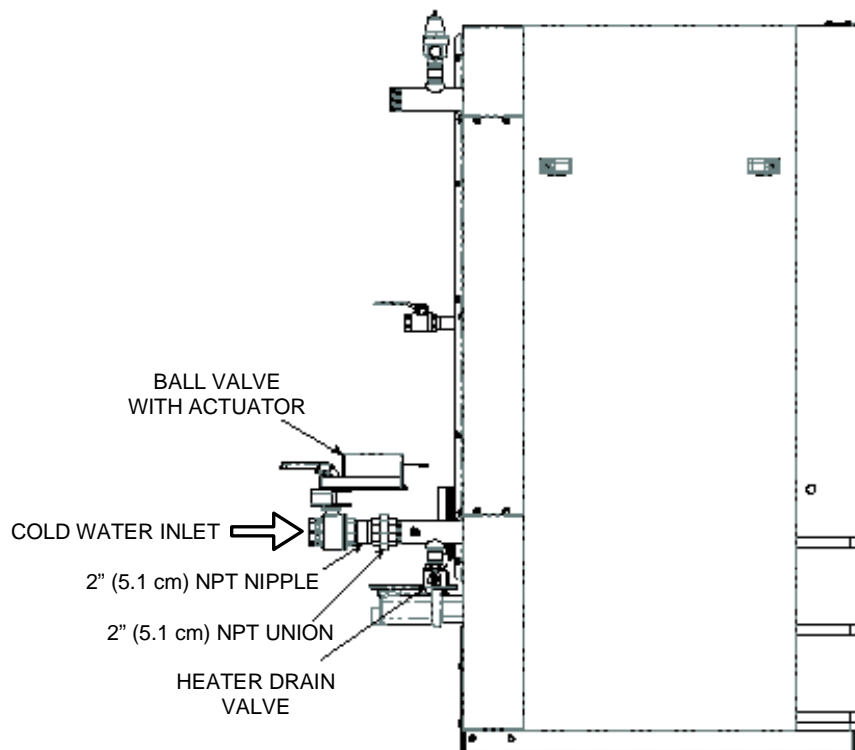

Figure 8-2. Innovation Hot Water Boiler Equipped With Sequencing Valve
2. Refer to Figure 8-2 and attach the valve to the cold water inlet of the unit (shown in Figure 8-2, below) using the pipe union and nipple provided.
3. Ensure that the valve is positioned with the actuator enclosure position as shown in Figure 8-2.